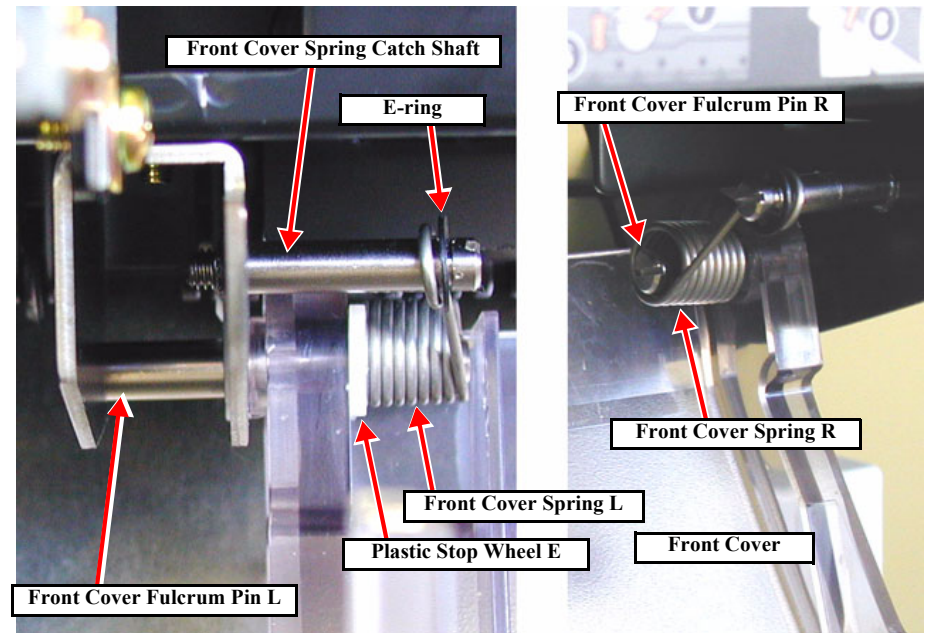

Figure 4-23. Front Cover Removal
3. Release the Front Cover Spring L from the Front Cover Spring Catch Shaft on the left side of the Front Cover. *(See Figure 4-23)*